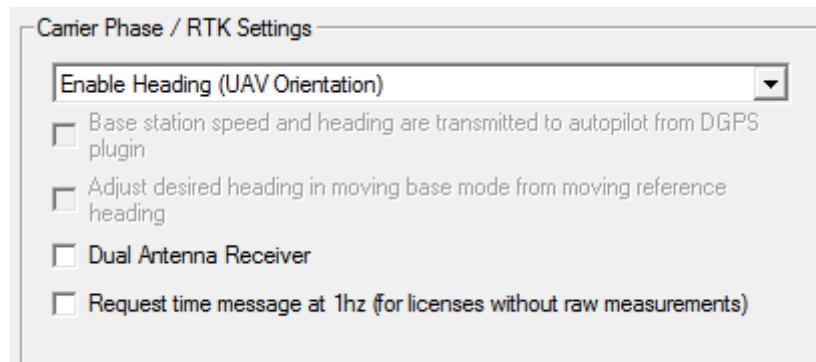

Figure 16 - NovAtel ALIGN Heading VRS Settings
2. In the Carrier Phase/RTK Settings section, select **Enable Heading (UAV Orientation)** as shown in Figure 16 - NovAtel ALIGN Heading VRS Settings.